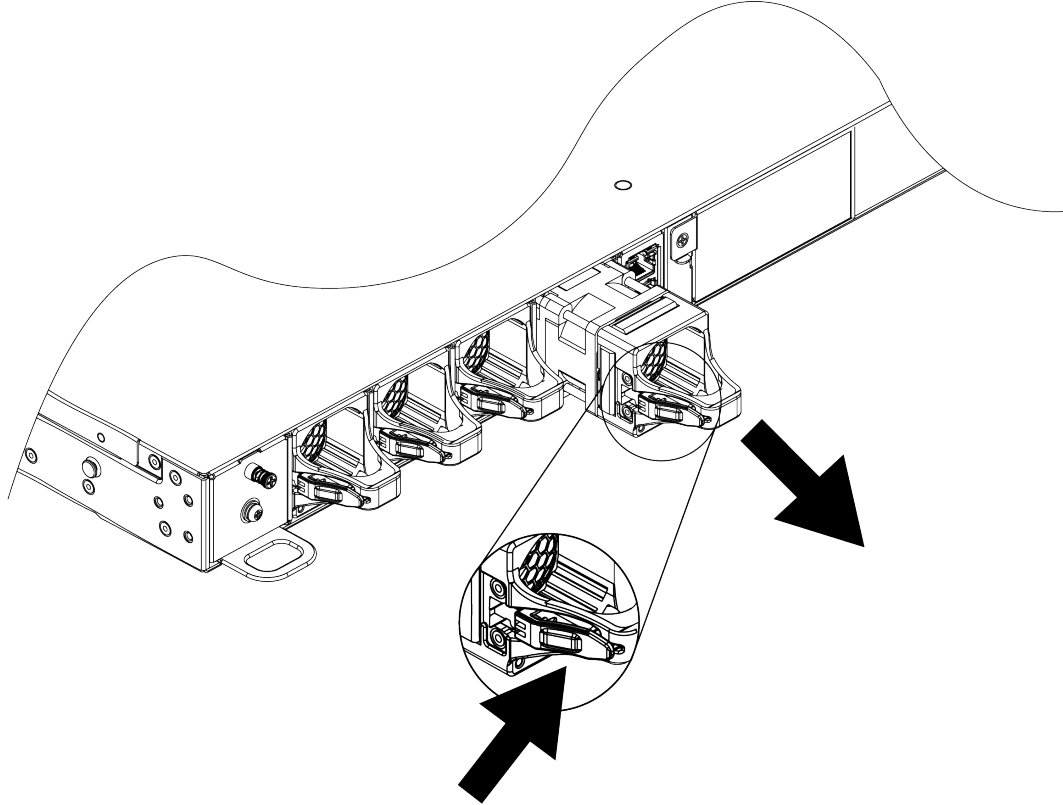

Figure 51: Removing a Fan Module
1. Push the latching tab toward the fan module handle and pull outward on the handle to disengage the fan module internal connectors. See Figure 51.